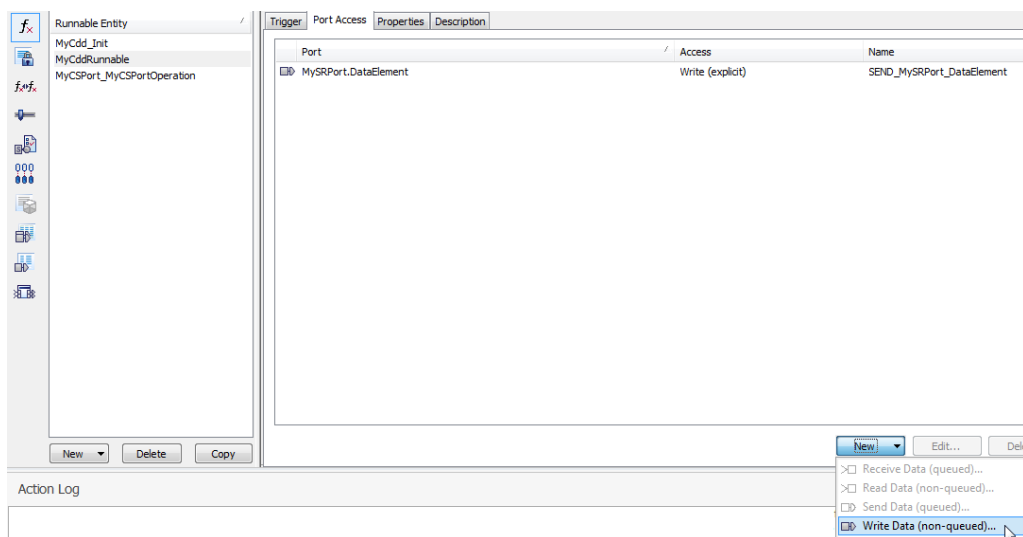

Figure 3-6 Assigning a Port to have Access to a Sender Data Element.
- > The normal runnable entity **MyCddRunnable** was created with a periodic trigger. This runnable entity shall cyclically update the data element of the sender port. So, the appropriate data element has to be added as Port Access as seen in Figure 3-6.